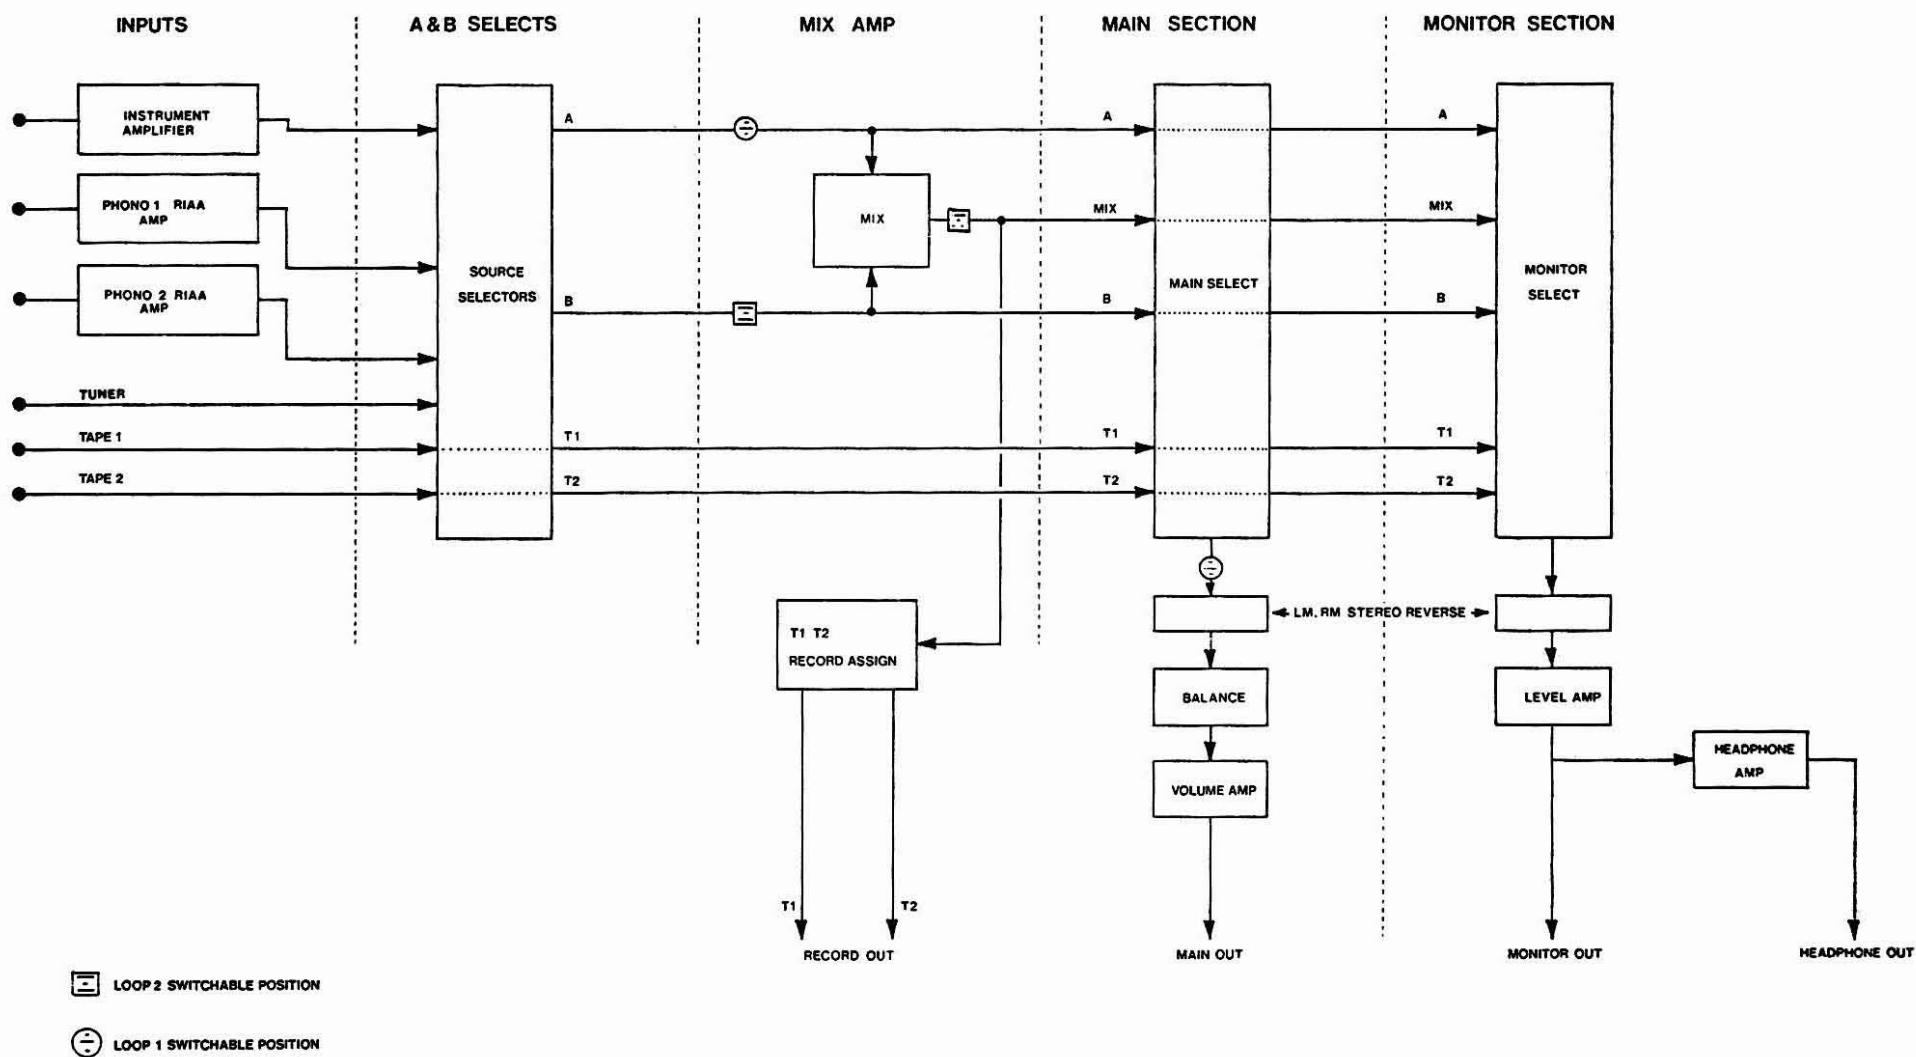

Figure 8
The circuitry of the MXR System Preamplifier II incorporates the latest advances in audio integrated circuit technology. The primary design goal was to provide control flexibility without altering the signal in any undesirable way. Low distortion, wide bandwidth, very low noise, and, most importantly, sonic clarity are primary achievements of the design. The phase integrity of the signal is maintained at all times. All signal paths, from any input to any output, are non-inverting (in phase). The circuitry is constructed using a double-sided, military-grade, glass epoxy printed circuit (PC) board. Careful design and layout of the PC board minimizes crosstalk and optimizes pulse response, and a substantial ground plane provides shielding from stray fields. The following discussion highlights those characteristics of the internal circuitry not already mentioned. Refer to the block diagram, Figure 8, showing how each stage is interconnected.